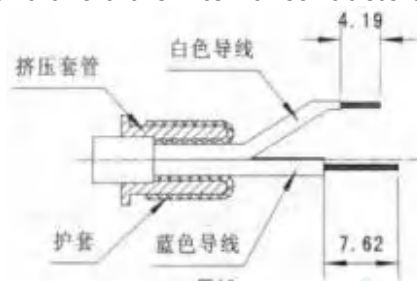

图40
- Slide the shield crimp ferrule onto the cable jacket, fit the shield layer over the shield crimp ferrule as shown in Figure 40, and avoid the internal conductors as illustrated (fillers can be cut off near the shield layer).